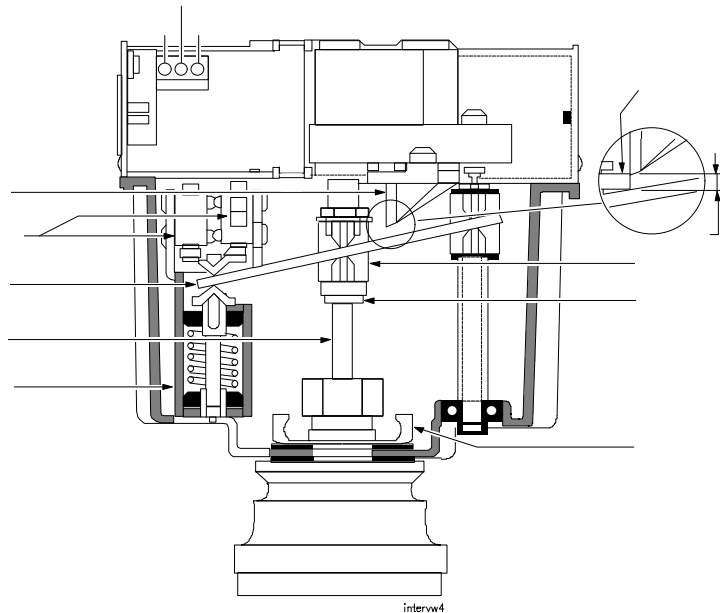

Fig. 5: Internal View
8. Reverse the actuator and drive it up until it stops on the limit switch. Check to make sure the gap between the lever plate and the molded upper stop is 1/16 in. (.047 to .093 in.). Set with flat washer gage supplied. (See Fig. 5). Repeat steps 6, 7 and 8 until the gap falls into this range when the actuator stops.